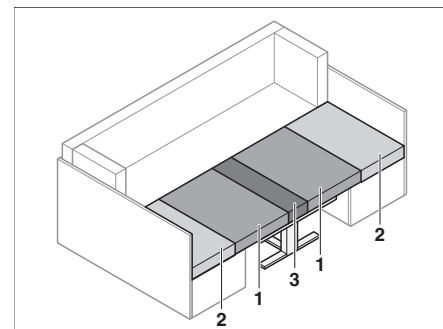

Fig. 74 After conversion
- Remove the back cushions (Bild 74,2).
- Pull the seat cushions (Bild 74,1) into the centre.
- Insert the back cushions (Bild 74,2) between the seat cushions (Bild 74,1) and the exterior wall.
- Insert the additional cushion (Bild 74,3) onto the table between the seat cushions (Bild 74,1).